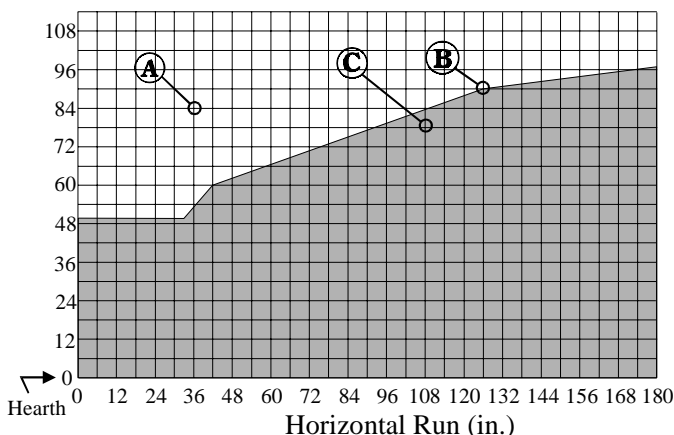

Figure 19. MD34-DV-2 Rear Vent Venting Graph
- your vent run must fall within the limits set by Figure 19
Measure the vertical height from the fireplace hearth to the centre of the termination and the horizontal run from the fireplace flue collar to the wall flange of the termination. Plot on the Venting Graph (Fig. 19) with an 'X'.
Venting runs *must* fall within the limits set by the venting graph (see Figure 19).